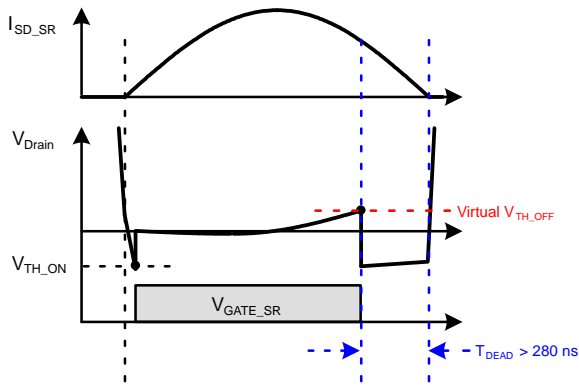
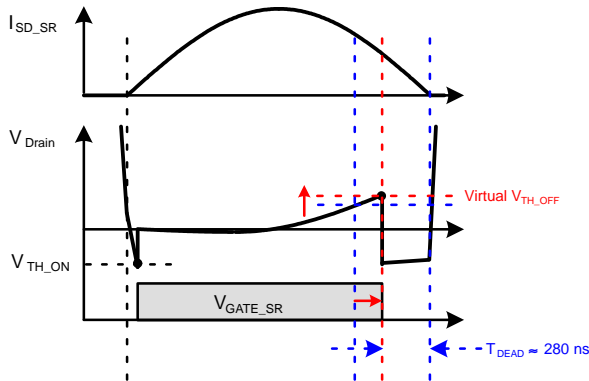

Figure 23. Premature SR Gate Turn-off ( $T_{DEAD} > t_{DEAD\_H}$ )
Figure 24. Dead Time Control to Maintain  $T_{DEAD} \approx t_{DEAD\_H}$
In FAN6248HC(D) version, if a dead time  $T_{DEAD}$  is larger than 280 ns of  $t_{DEAD\_H}$ , as shown in Figure 23,  $V_{offset}$  is decreased by one step in next switching cycle. As a result, the dead time is decreased by increase of virtual  $V_{TH\_OFF}$ , and becomes close to  $t_{DEAD\_H}$ , as shown in Figure 24. If the dead time is smaller than  $t_{DEAD\_H}$ , the dead time is increased by the virtual  $V_{TH\_OFF}$  decrease. Thus, the dead time is maintained at around  $t_{DEAD\_H}$  regardless of parasitic inductances.